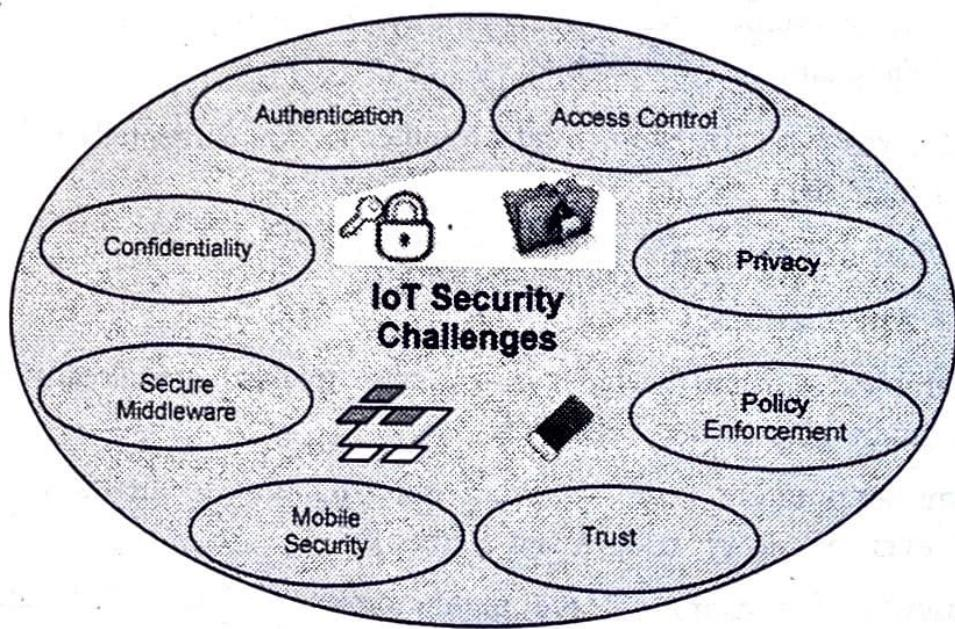

Fig. Q.24.1 IoT security challenges
- Fig. Q.24.1 shows high level security challenges of IoT.